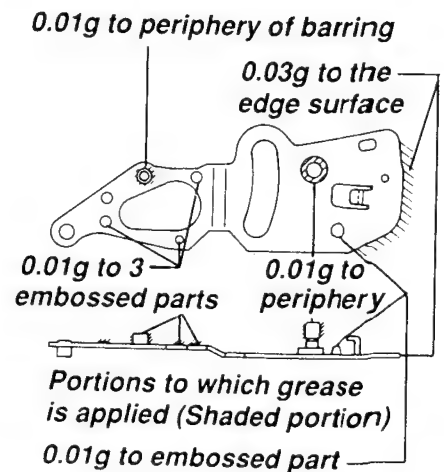

Fig. 4-17-2
4. Remove the stop ring (1) and remove the relay gear. (Refer to item "1-4-18. Relay Gear Replacement".)
5. Remove the clutch holder, clutch assembly and the clutch cam. (Refer to item "1-4-14. (2) Clutch cam Replacement".)
6. Remove the stop ring (2) and bend the claw (3) in the direction of the arrow (A) to remove the cam gear upward. (Refer to item "1-4-6. Cam Gear Replacement".)
7. Remove the P. OSC drive lever in the direction of the arrow (B).
8. Apply grease to the portion (4) at the new P. OSC drive lever. (Refer to Fig 4-17-2.)
9. Replace the P. OSC drive lever by reversing above procedures. When installing, insert the barring (6) of the P. OSC drive lever into the hole (5) on the main base and also insert the lock plate of the P. OSC drive lever into the hole (7) on the main base in the direction of the arrow (C).